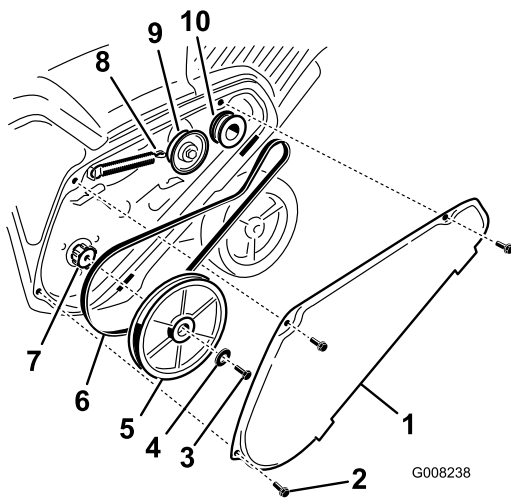

Figure 31
1. Remove the drive-belt cover by removing the 3 bolts as shown in Figure 31.
- Unhook the brake spring from the idler arm to release the belt tension (Figure 31).
- Remove the screw and curved washer that holds the rotor pulley (Figure 31).
- Remove the rotor pulley and the drive belt (Figure 31).
Note: Route the new drive belt first around the engine pulley, then the idler pulley, and finally around the loose rotor pulley positioned just above the rotor shaft (Figure 31).
- Install the rotor pulley onto the rotor shaft (Figure 31).
- Install the curved washer and the rotor-pulley bolt and tighten them securely (Figure 31).